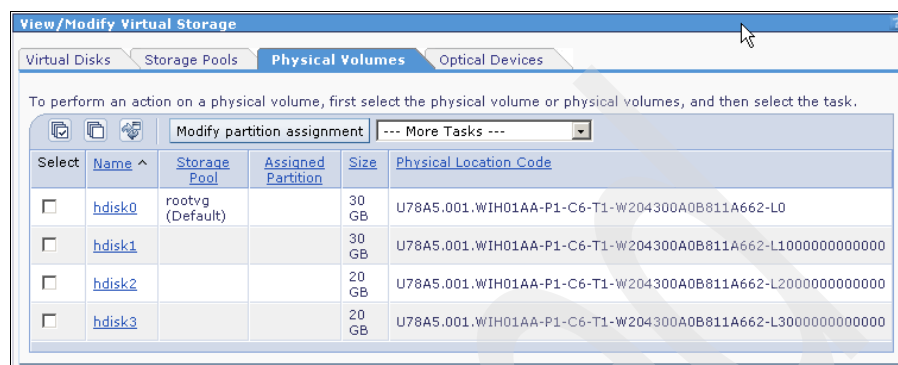

Figure 4-14 Available physical volumes
- Click the **View/Modify Storage** page on the Physical Volumes tab to see a list of available hard drives to the VIOS. Verify that the expected drives are available. See Figure 4-14.